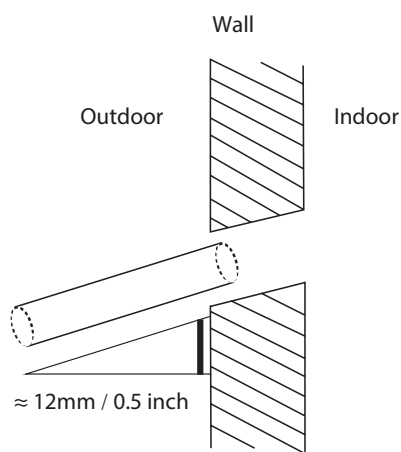

Fig. 5.5
- Using a 65-mm (2.5") core drill, drill a hole in the wall. Make sure that the hole is drilled at a slight downward angle, so that the outdoor end of the hole is lower than the indoor end by about 12mm (0.5"). This will ensure proper water drainage (See Fig. 5.5). Place the protective wall cuff in the hole. This protects the edges of the hole and will help seal it once you finish installation.